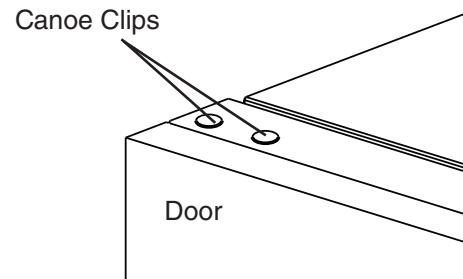

**Fig. 27**
- 8) Replace the door gasket in its proper orientation. Reinsert the bushings into hinge (C1) and hinge (C2) (the hinges attached to the door). See Fig. 27.